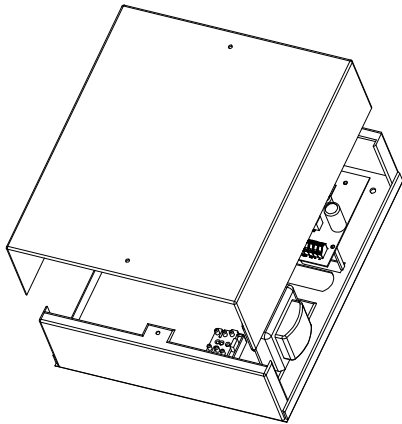
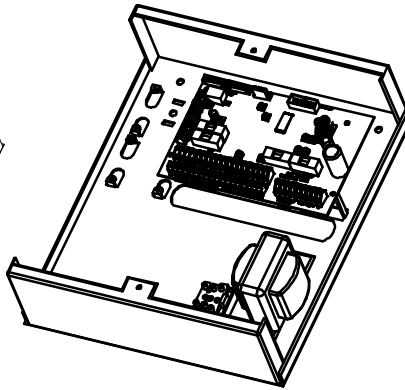

Figure 1.
Figure 2.
1. Unscrew and remove the cover of the **PCX 46 App** (Figure 1). The **PCX 46 App** Printed circuit board is located to the top right hand side. (Figure 2)